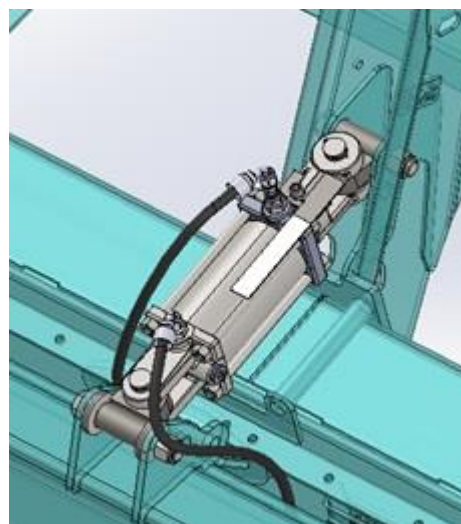

Figure 232
2. Hydraulic Tilt Option. A cylinder is installed in the center of the header and is controlled by the tilt switch box in the cab to energize a solenoid to divert oil from the fore/aft cylinders to the tilt cylinder. Figure 232